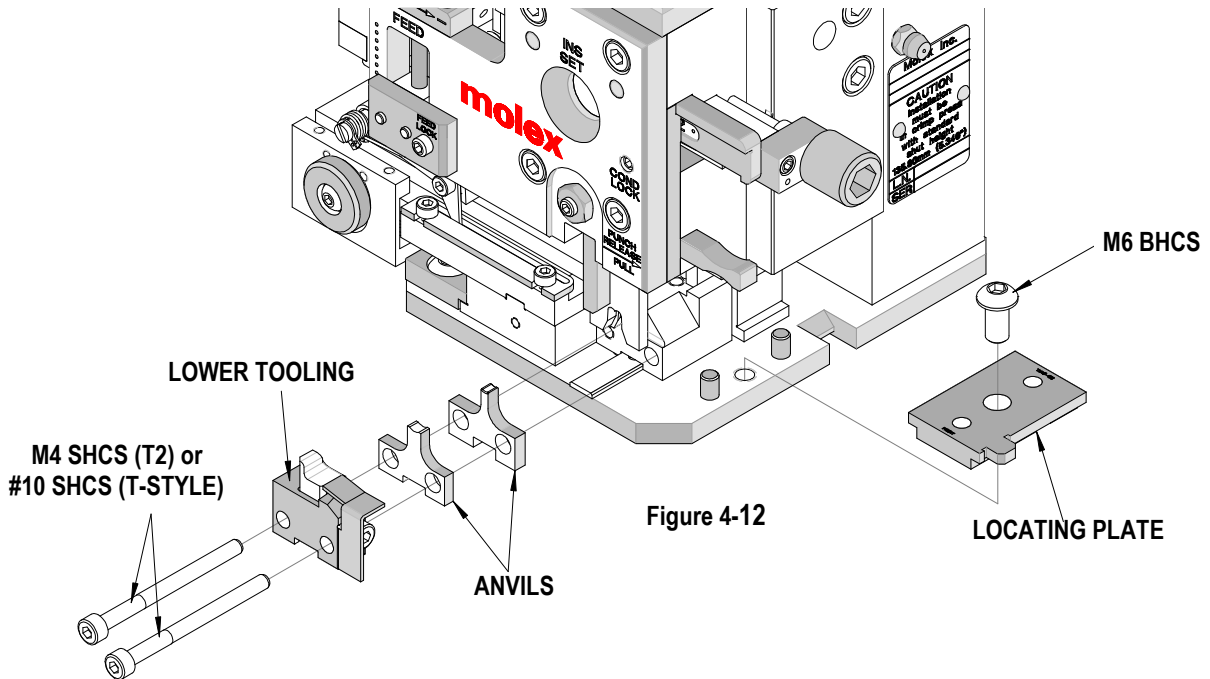

Figure 4-12
4. On the T2 tool sets, remove the M4 socket head cap screws that hold the lower tooling in place and pull out the tooling. See Figure 4-12.